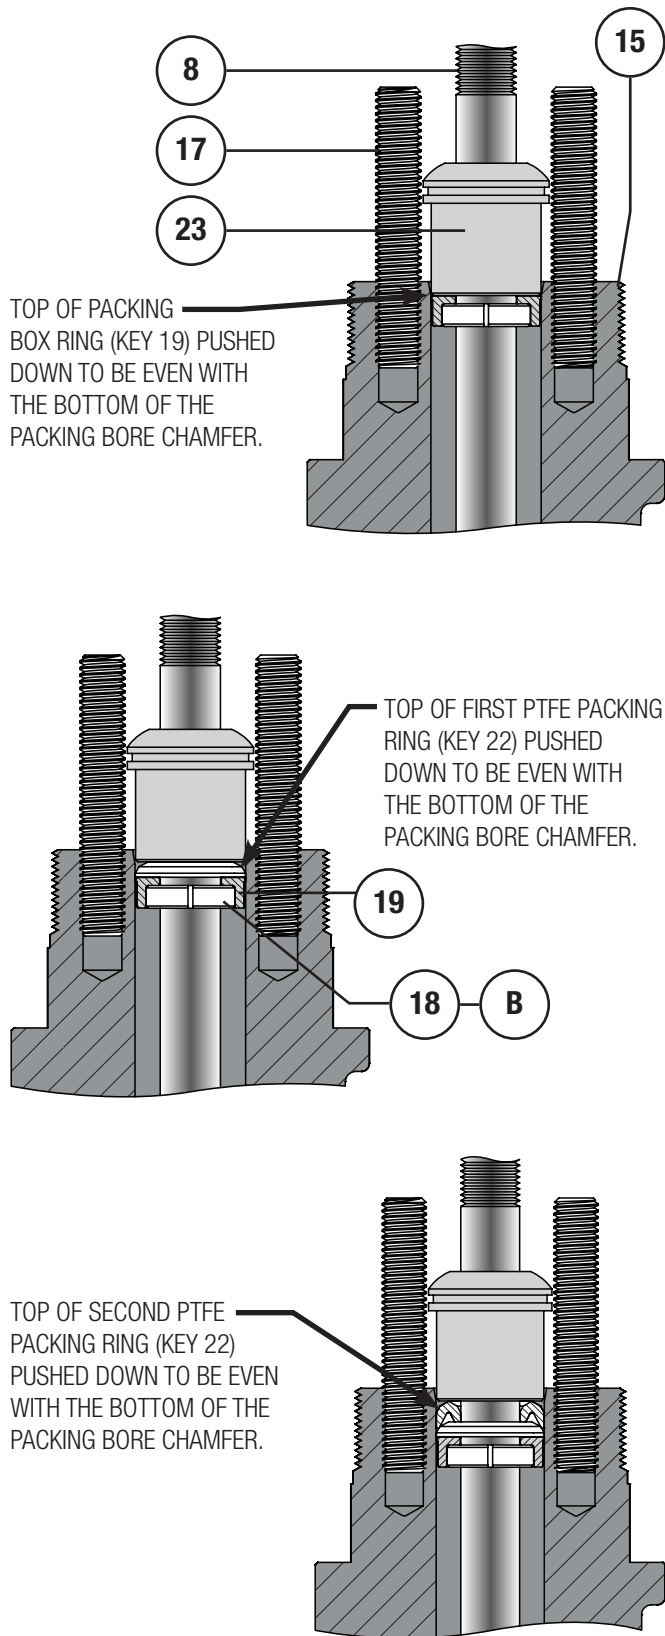
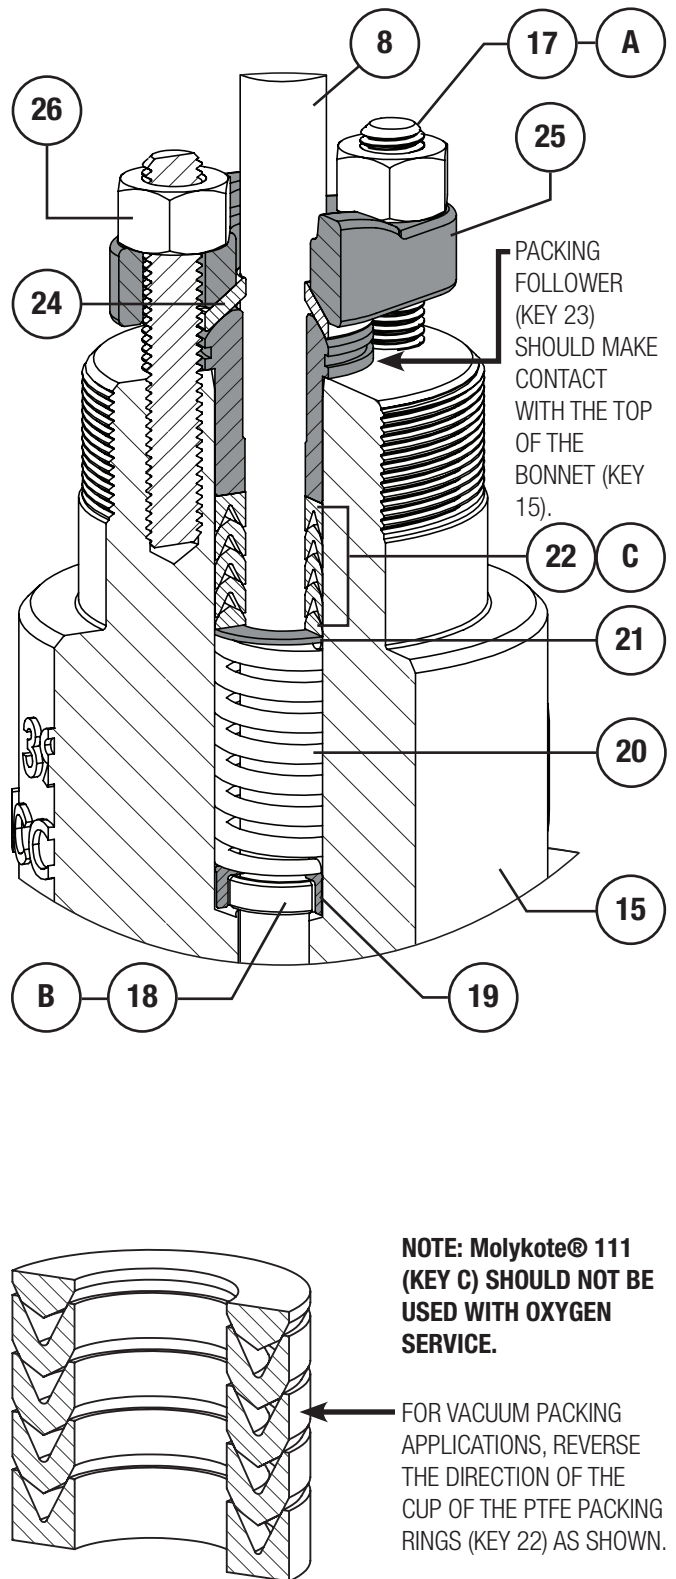
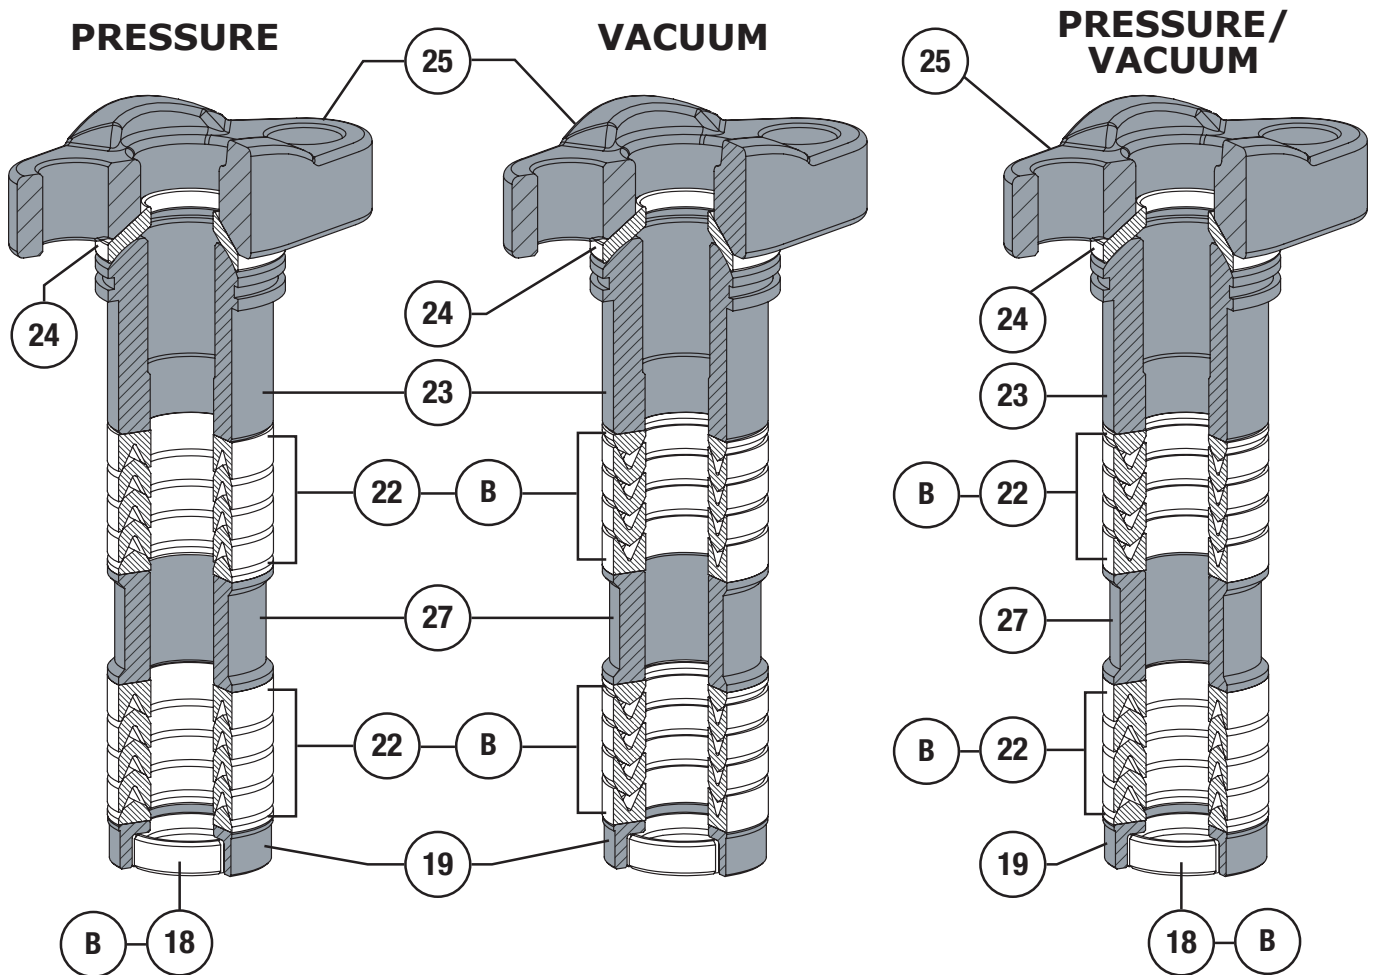

Figure 25 Proper Packing Ring Installation Technique
Figure 26 Single Style Packing Installation Diagram
Figure 28 PTFE Packing Arrangement Diagrams
For Live Loaded packing instructions see the Live Loaded Sliding Stem Packing Manual (Part Number P-LLPS). For other packing arrangements refer to Figures 26, 28, 29, 30.
NOTE: To prevent trapping air between packing during installation, it is recommended that packing rings be installed one at a time using the packing follower (Key 23) to push the packing rings in place. Do not force packing rings below the chamfer of the packing bore before adding another ring, packing rings should only be pushed down the thickness of the added ring. Refer to Figure 25.
- Apply Molykote® 5 (Key B) to the PTFE packing rings (Key 22). Install the packing rings one ring at a time (as shown in Figure 25) in the proper order and orientation as shown in Figure 26.
- 2 Apply Molykote® 5 (Key B) to the first set of packing rings (Key 22). Install the packing rings one ring at a time (as shown in Figure 25) in the proper order and orientation as shown in Figure 28.
- 4 Apply Molykote® 5 (Key B) to the second set of packing rings (Key 22). Install the packing rings one ring at a time (as shown in Figure 25) in the proper order and orientation as shown in Figure 28.
- 4 Install 1 ring of graphite filament (Key 29) as shown in Figure 25. **NOTE:** Graphite filament is a wound material that typically looks like rope and is split.
- 5 Install 1 ring of graphite ribbon (Key 30) as shown in Figure 25. **NOTE:** Graphite ribbon is compressed into rings and not split like the graphite filament.